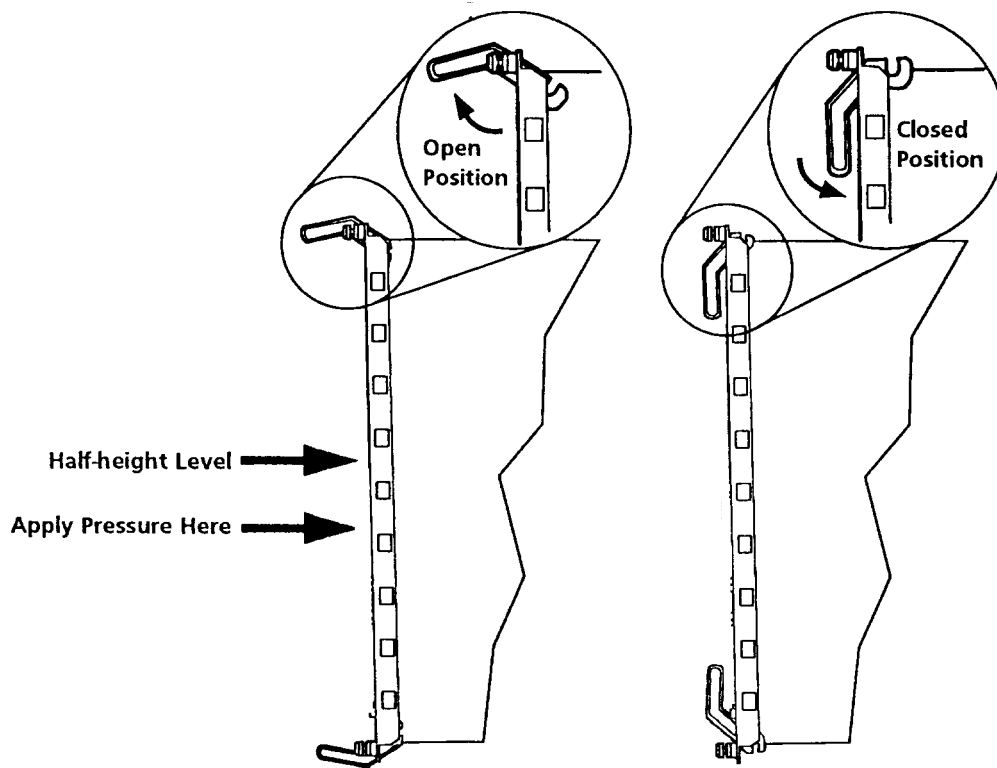

Figure 2-4. CELLplex 4000 Module Ejectors
3. Make sure that the two module ejectors (left and right) are OPEN (see Figure 2-4.)